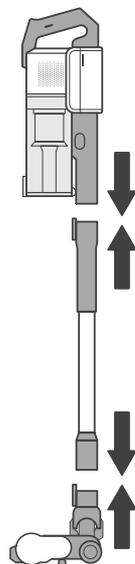

Figure 1.2
2. Attach the vacuum head or a nozzle attachment to the bottom of the stick, then attach the vacuum body to the top of the stick. **[Figure 1.2]**